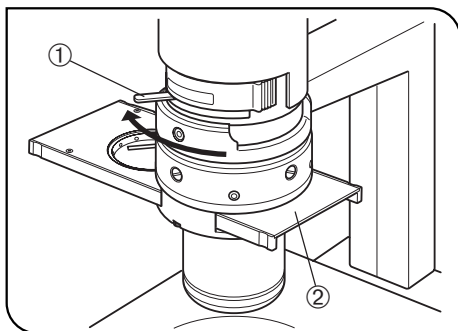

Fig. 4
☉ With this observation, the aperture iris diaphragm of the CKX-RCD should be open. Turn the lever ① fully counterclockwise to open it. (Fig. 4)
1. Gently slide the RC slider ② with the 10X slit until the click position. (Fig. 4)